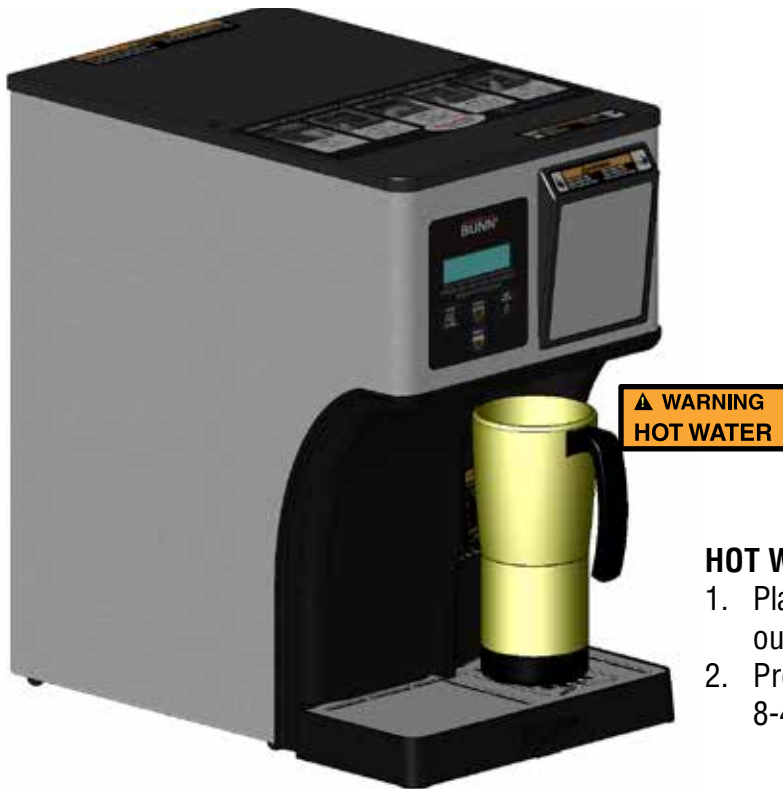

FIG 8-1
1. Place cup under brew chamber FIG 8-1. (Slide booster out for small cups) FIG 8-3.